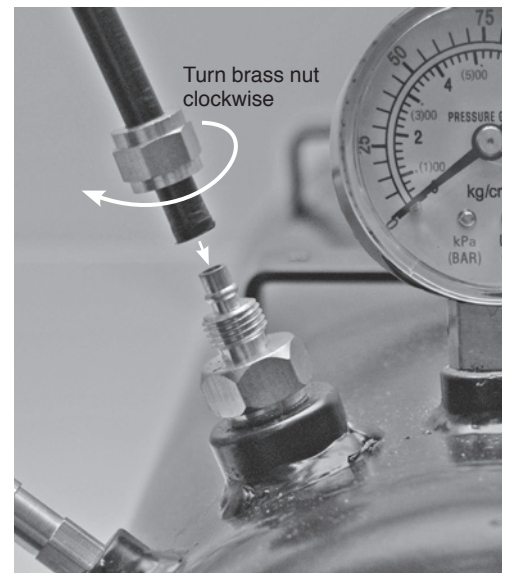

Fig. 4 Connecting the high-pressure plastic hose
WIRING SOLENOID: Fig. 4
HOSE INSTALLATION (Fig. 3 and Fig. 4):
7. Using the high-pressure plastic hose provided, cut to size to be able to connect the tank to inlet fitting of the accessory or valve requiring high-pressure air. Place the brass nut from the tank's outlet fitting onto the high-pressure plastic hose. Push the plastic hose fully onto the outlet fitting, tighten the brass nut onto the outlet fitting. (Fig. 4 and 5)